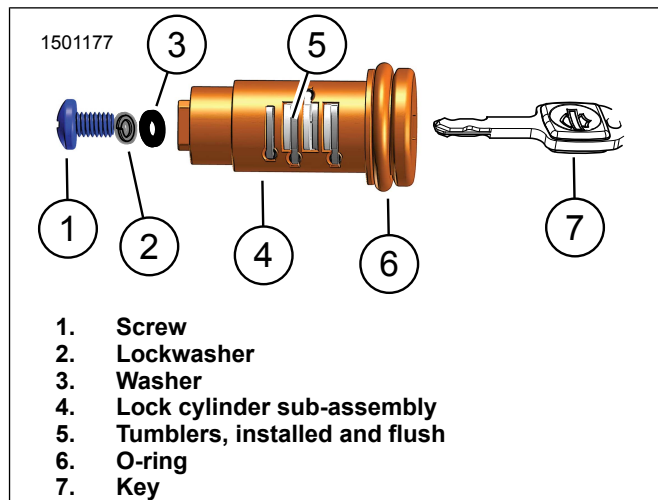

Figure 5. Assembled Lockset
9. See Figure 5. While holding tumblers fully in place, install key in assembled cylinder sub-assembly.